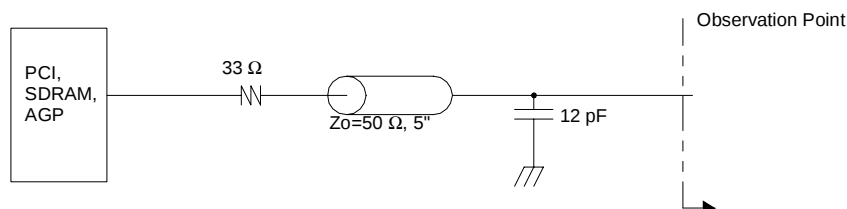

Figure 2. Test Circuit for PCI/SDRAM/AGP
- All parameters for CPU are measured at observation point shown in figure1 on page 10 and parameters for PCI, SDRAM & AGP are measured at observation point shown in Figure 2 on page 11 unless otherwise mentioned.